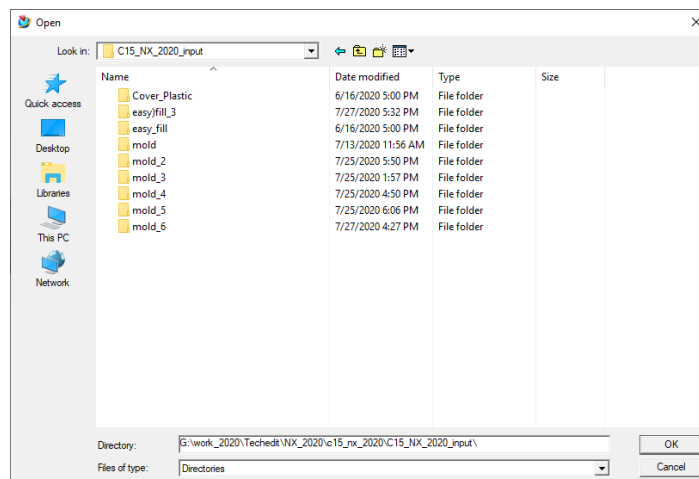

Figure 15-67 The Open dialog box
2. Choose the **Browse** button; the **Open** dialog box is displayed where you can set the working folder, refer to Figure 15-67.